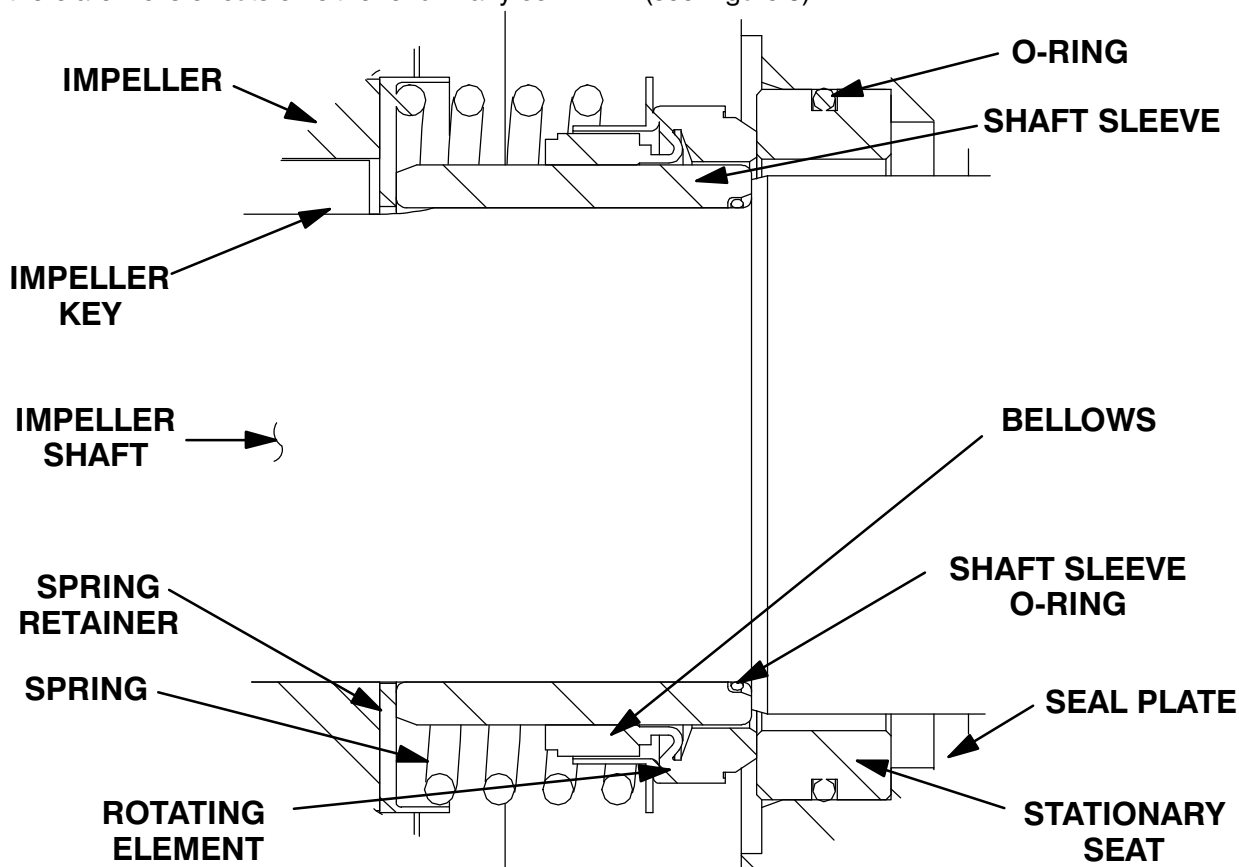

Figure 9. Seal Assembly
To ease installation of the seal, lubricate the stationary seat O-ring, the I.D. of the bellows and the O.D. of the shaft sleeve (5) with "P-80® Emulsion" or water. **Do not** use oil or any substitute lubricant other than water. Apply a drop of light lubricating oil on the finished faces. Assemble the seal as follows, (see Figure 9).